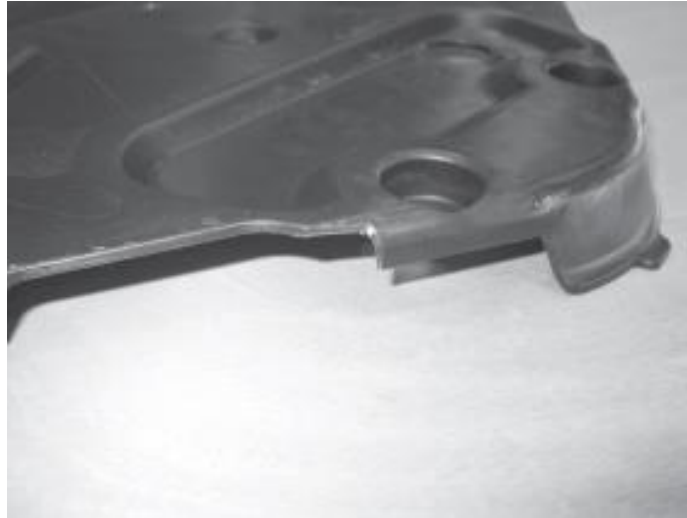

Figure 2
2. Remove approximately a 1.0" by 0.5" piece from both sides of the skid plate using side cutting pliers or snips, Figure 2.
1. Slide the plow into position with the tubes under the ATV. Lift the end of the tube assembly into position so the holes in the tube wings line up with the 3/8” holes in the frame brackets (Figure 2).